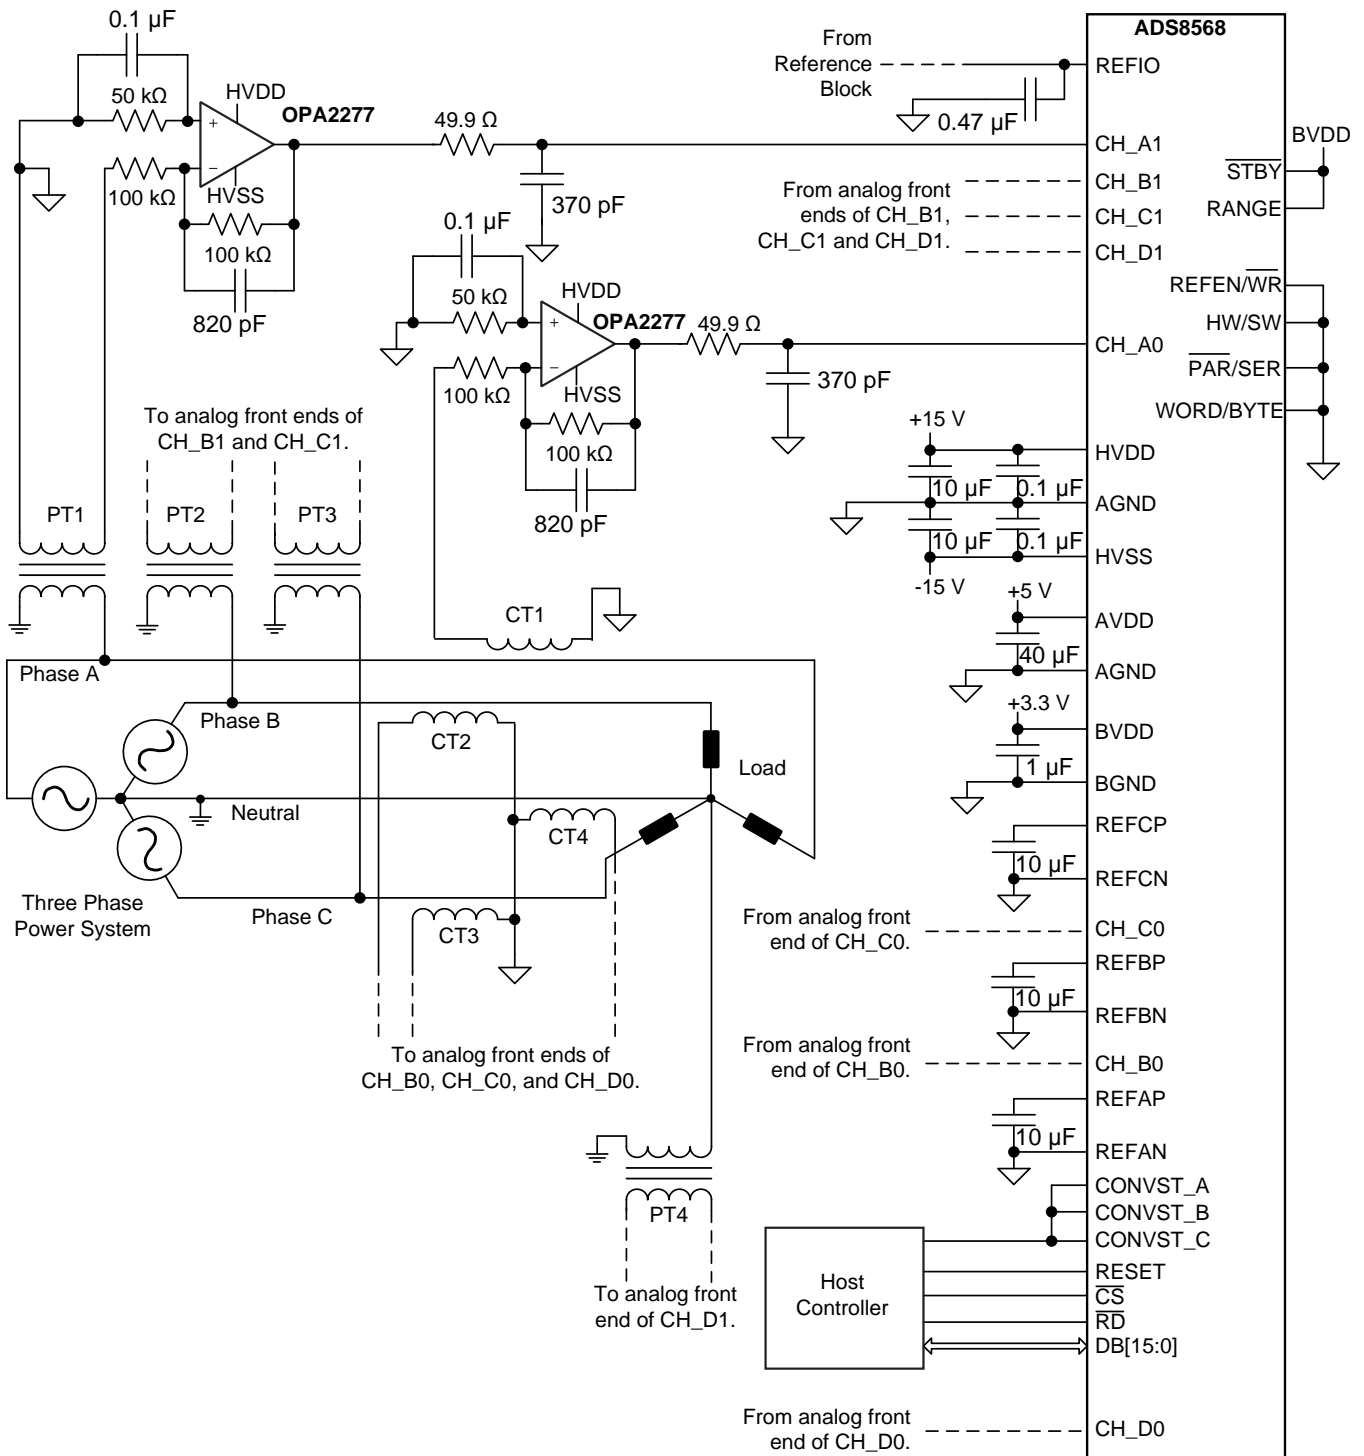

Figure 45. Simultaneous Acquisition of Voltage and Current in a 3-Phase Power System
The accurate measurement of electrical variables in a power grid is extremely critical because this measurement helps determine the operating status and running quality of the grid. Such accurate measurements also help diagnose problems with the power network, thereby enabling prompt solutions and minimizing down time. The key electrical variables measured in 3-phase power systems are the three line voltages, the neutral voltage at the load, the three line currents, and the neutral return current; see Figure 45. These variables enable metrology and power automation systems to determine the amplitude, frequency, and phase information in order to perform harmonic analysis, power factor calculations, and power quality assessment, among others.
- Output range of the potential transformers (elements labeled PT1, PT2, and PT3 in Figure 45)
- Output range of the current transformers (elements labeled CT1, CT2, and CT3 in Figure 45)
The potential transformers and current transformers used in the system depicted in Figure 45 provide the eight inputs required. These transformers have a  $\pm 10$ -V output range. Although the PT and CT elements provide isolation from the power system, the value of  $R_{IN}$  is selected as 100 k $\Omega$  in order to provide an additional, high-impedance safety element in the current path leading up to the input of the ADC. Moreover, selecting a low-frequency gain of  $-1$  V/V (as shown in Equation 5) provides a  $\pm 10$ -V output that can be fed into the ADS8568; therefore, the value of  $R_F$  is selected as 100 k $\Omega$  too.
The primary goal of the acquisition system depicted in Figure 45 is to measure up to 20 harmonics in a 60-Hz power network. With this goal in mind, the analog front-end must have sufficient bandwidth to measure signals up to 1260 Hz as shown in Equation 6.